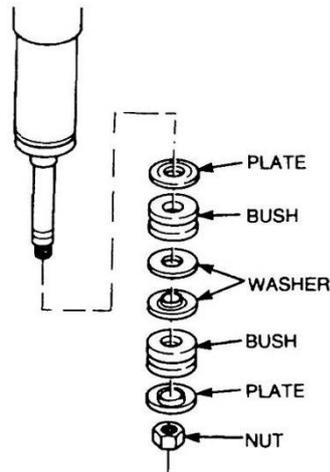

Figure 98 Removal of the Shock Absorber
- e. Remove the nut, cup washer and rubber bush securing each shock absorber to the axle housing (Figure 98).